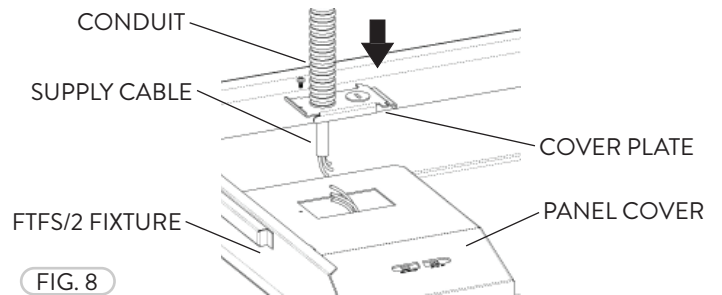

FIG. 8
- 6 Run a Power Supply Cable through a Conduit and install all wiring connections inside the Panel Cover of the FTFS/2 fixture. Attach the wiring access Cover Plate. Please see wiring instructions (Fig. 8). Refer to the wiring diagram.